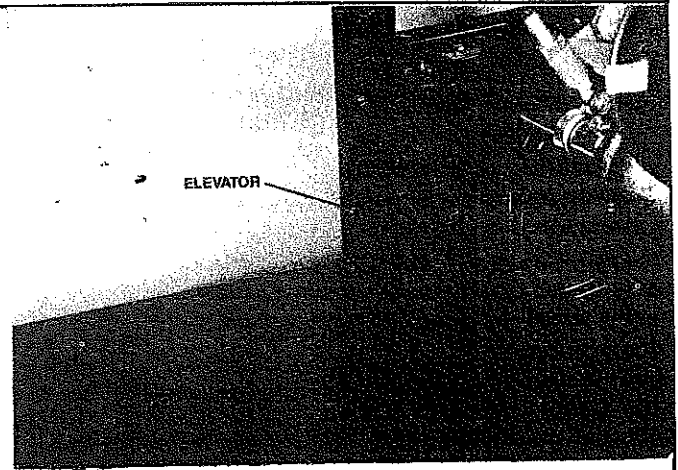
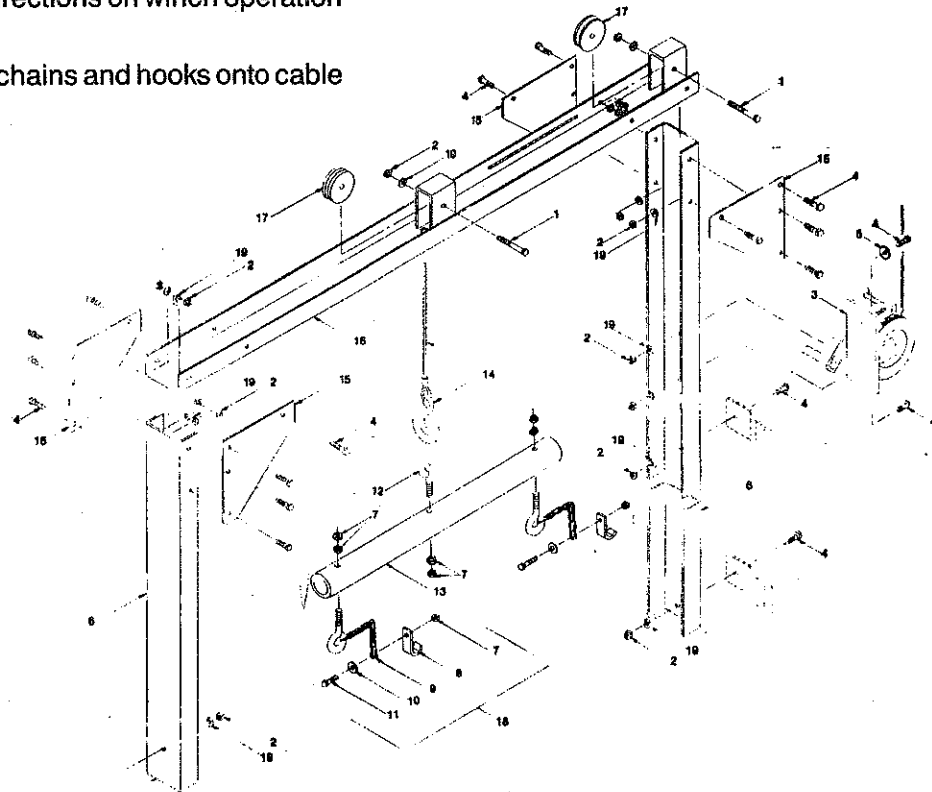

FIG. 5
FIG. 6A
Bolt the left and right end frames to the top and bottom mounting brackets already attached to the end panels (see FIG. 5) using four (4) 3/8-16 x 3/4" hex head cap screws, lockwashers and nuts. Bolt gussets loosely to the overhead channel, which is installed with the pulleys on top, using four (4) 3/8-16 x 3/4" long hex head screws, lockwashers and nuts. Lift overhead channel into position and bolt to end frames using (4) 3/8-16 x 3/4" long hex head screws, lockwashers and nuts. Align and securely tighten all nuts. Attach winch to the left end (when standing in the rear of the machine) of the end frame with the handle post facing out with two (2) 3/8-16 x 3/4" long hex head cap screws and self locking nuts. (See FIG. 6A) Mount the handle to the winch, then place the spring over the handle post and secure with the 1/2" selflocking nut.